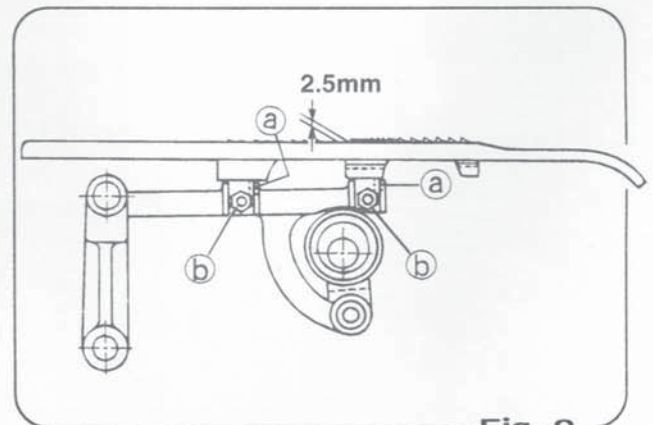

Fig. 9
- Adjust the height of the feed dog so that it protrudes 2.5mm from the upper surface of the throat plate when the feed dog has risen to the highest position, as shown in (Fig.9). If the feed dog is higher than this, stitch will not chain satisfactorily, and if it is lower than this, the stitch width will be too small. Slacken nut ⑥ with a box spanner to adjust the height of the Feed Dog. It is important to adjust the height with set screw ③ to ensure that the pressure from the Pressure Foot should not force it back down. Tighten nut ⑥ when the adjustment is correct.
- 送料齿(前)到最高位时，测查送料齿在针板面上高度，必须 2.5mm 如(图 9)所示，请将调节螺钉 ③ 拧左右而调为送料齿 2.5mm 高于针板上表面。调整结束用筒板子拧紧螺母 ⑥ 固定送料齿。